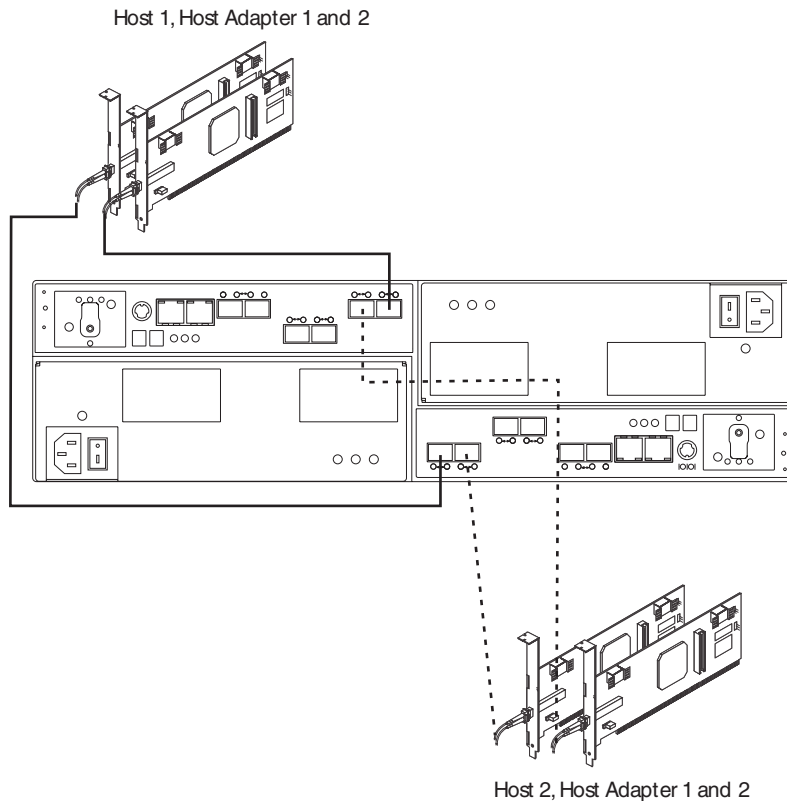

Figure 55. Cabling diagram for two redundant host connections
3. Repeat steps 1 on page 82 and 2 on page 82 for each additional redundant host connection. You can create two redundant host connections for the DS5020 storage subsystem, as shown in Figure 55 on page 84, or a maximum of four redundant host connections (not shown). With four redundant host connections, you can have a connection to a DS5020 Fibre Channel host bus adapter or to Fibre Channel switch ports.